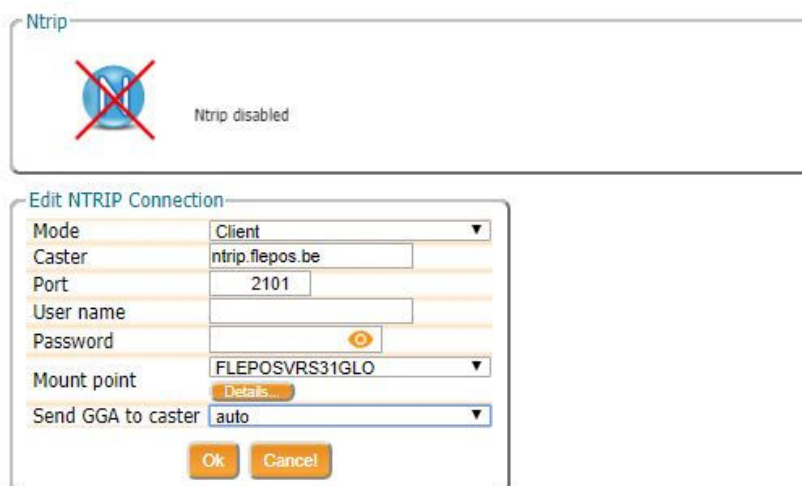

Figure 4-4: NTRIP client mode settings
3. Enter the NTRIP caster details as shown in Figure 4-4 and click **Ok**. The mount point list will only be populated when the caster details have been entered correctly and when you have an active internet connection.